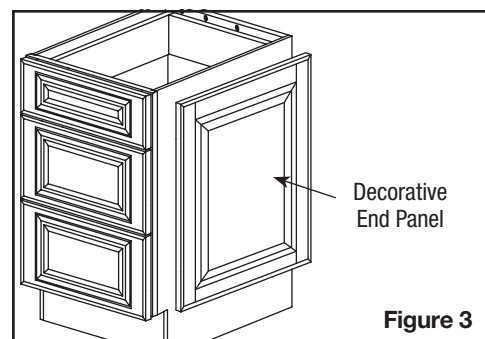

Figure 3
- Secure the end panel to the cabinet using #6 x 1 in. wood screws (Figure 3).